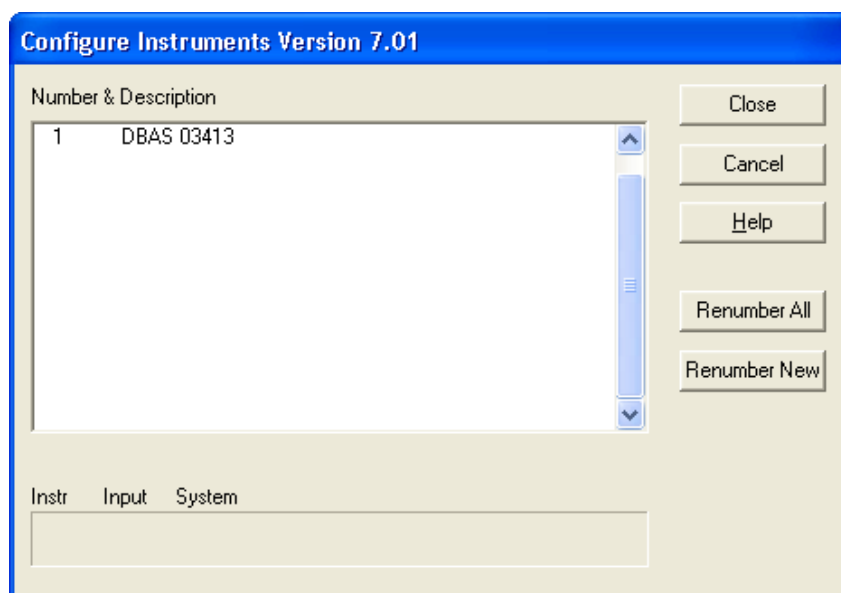

Figure 40. MCB Numbering and Descriptions.
- The digiBASE will then be displayed on the *Master Instrument List* dialog, as shown in Fig. 40. (Note that the Description for your digiBASE will likely differ from the one in the illustration; it is based on information about your particular PC.)